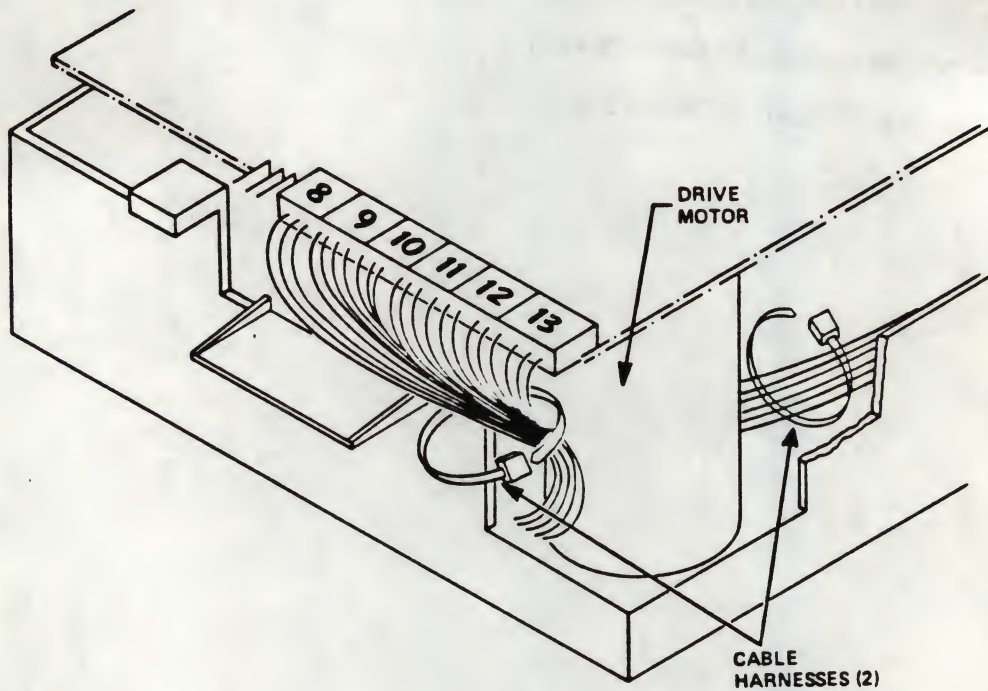

Figure 5-9
5.6.2 Cut the two (2) cable harnesses that attach the Activity LED Assembly and the Write Protect Switch Assembly to the chassis in front of the drive motor and to the bundle of wires in back of the drive motor (see Figure 5-9).
5.6.8 Install a new cable harness to attach the Activity LED Assembly and the Write Protect Switch Assembly to the chassis by putting the cable harness through the two (2) holes in the bottom of the chassis (see Figure 5-9).
- 5.6.9 Install a new cable harness around the bundle of wires, including the new Activity LED Assembly cables, that are located at the back of the drive motor (see Figure 5-9).